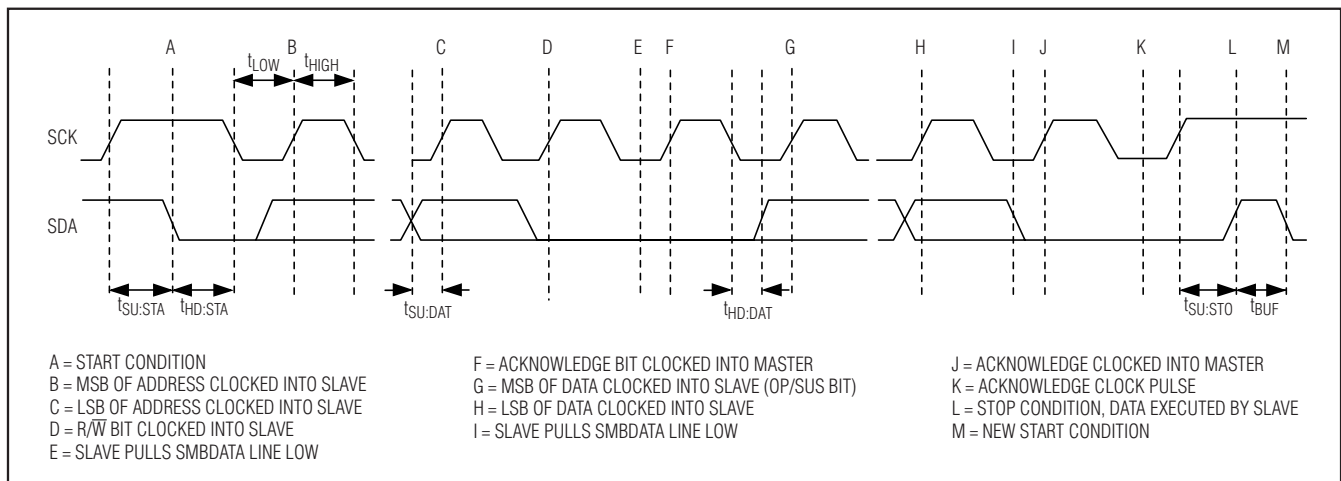

Figure 2. I2C Timing Diagram
An I2C 2-wire serial interface is provided on the MAX8879 to control LED brightness, flash, temperature deration, and RGB ramp rate. The serial interface consists of a serial data line (SDA) and a serial clock line (SCK). Standard I2C write-byte commands are used. Figure 2 shows a timing diagram for the I2C protocol. The MAX8879 is a slave-only device, relying upon a master to generate a clock signal. The master (typically a microprocessor) initiates data transfer on the bus and generates SCK to permit data transfer. A master device communicates to the MAX8879 by transmitting the proper 8-bit address (0x9A) followed by the 8-bit control byte. Each 8-bit control byte consists of a 3-bit command code and 5 bits of data (see Table 1). Each transmit sequence is framed by a START (A) condition and a STOP (L) condition (see Figure 2). Each word transmitted over the bus is 8 bits long and is always followed by an acknowledge clock pulse.